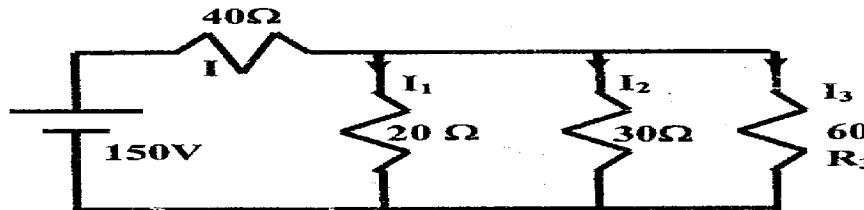

Figure 1
- 1) For the circuit shown in fig.1 Find: